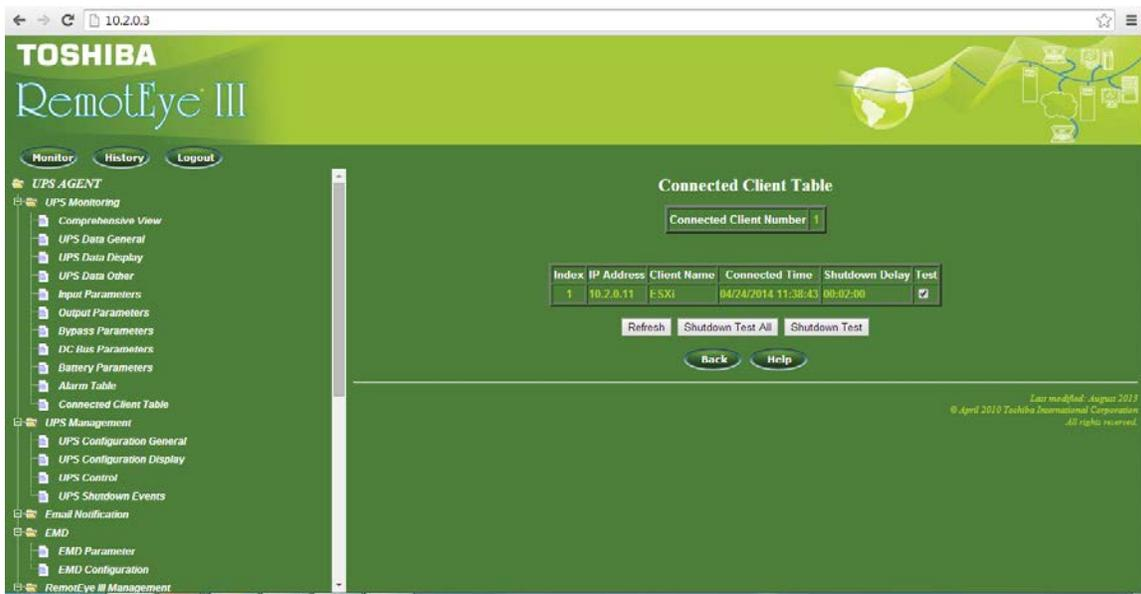

Figure 0-11 RemotEye III Main Display with Shutdown Test Buttons
19. Test it. (See Figure 0-11)